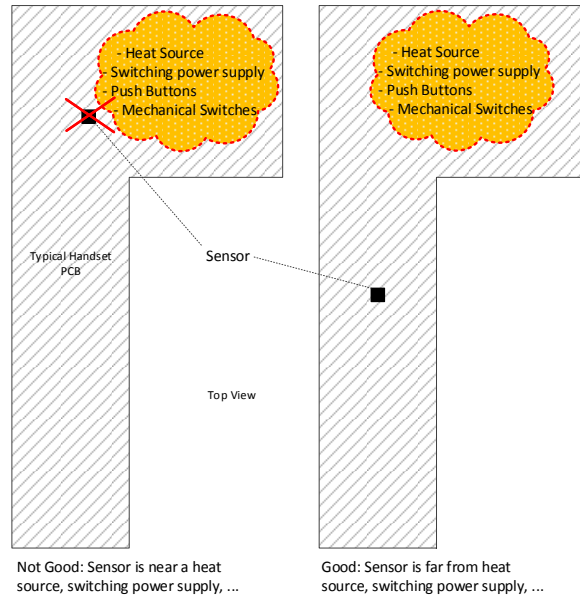

Figure 2 - Do Not Place Sensor Near Heat Source or Switching Power Supply
- Do not place the sensor near (see Figure 2):